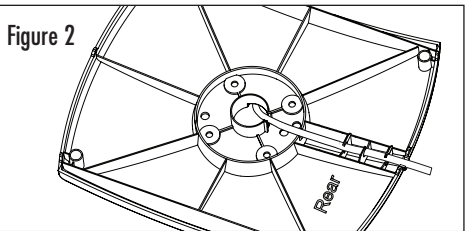

Figure 2
- Step 2: Lace the power cord through the cord minders on the underside of the base. Refer to Figure 2.